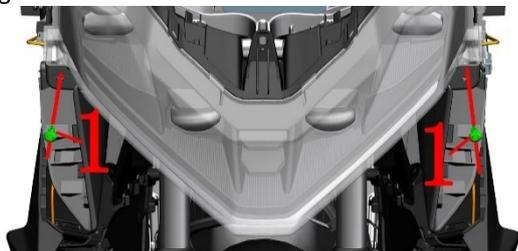

Figure 1
- Use a #4 hex key or crochet hook to remove the two expansion bolts in Figure 1.